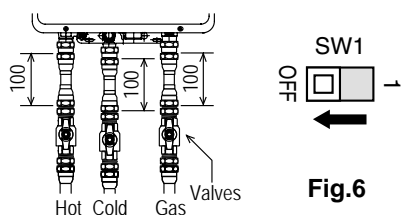

Fig.5
6. The fan assisted flue clearance dimensions in Fig 5 should be used, as the REU2632FFU is a fan-assisted appliance.
3. Rinnai recommend 100 mm of pipe (gas and water) section between the isolating valves and the appliance, which when removed will allow the Infinity to be lowered and disconnected from the flue. (**Fig. 5**).
8. Ensure that the appliance can be removed without causing movement or displacement of the flue, as per AS5601/AG601 clause 5.13.4.1. This can be achieved if a 100mm distance is kept between the gas and water isolating valves and the connection points at the water heater **(Fig.5)**.